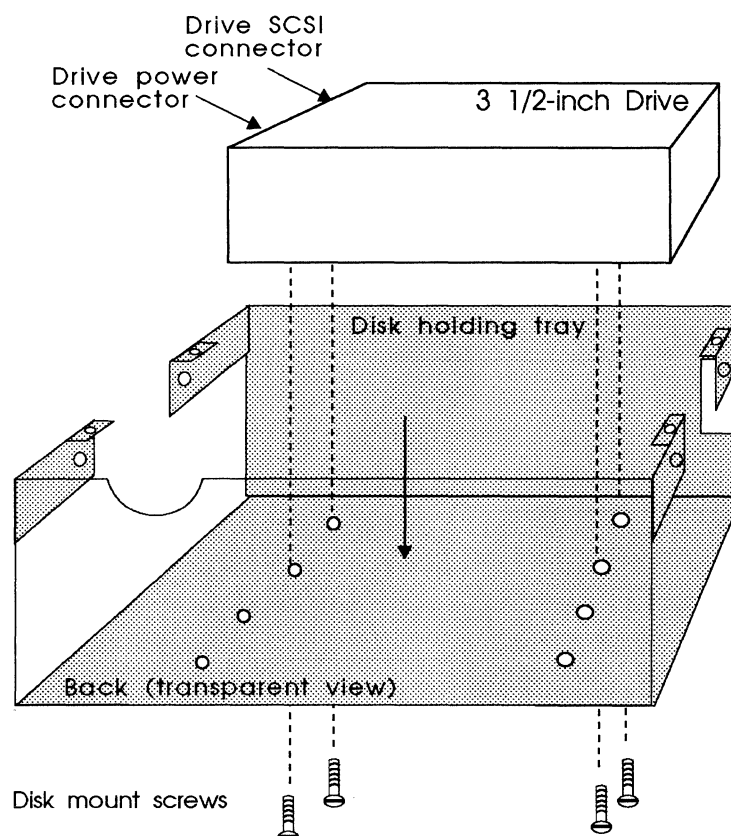

Figure 4-20: CDI-4000-SA2 drive installation
- 2 Place the 3½-inch drive into the disk holding tray and secure it by putting four screws into the drive through the bottom of the disk holding tray. Repeat for the second drive. (Drives' connectors must face left when viewing from the rear.) See Figure 4-20.